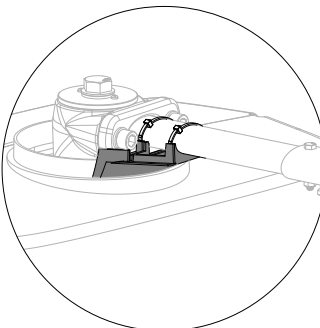

Figure 3. Wrap the Zip Ties Around the Arm
5. Slide the top cap shield against the opening in the back cover and then pull it away less than 1/8 inch. (Figure 3)